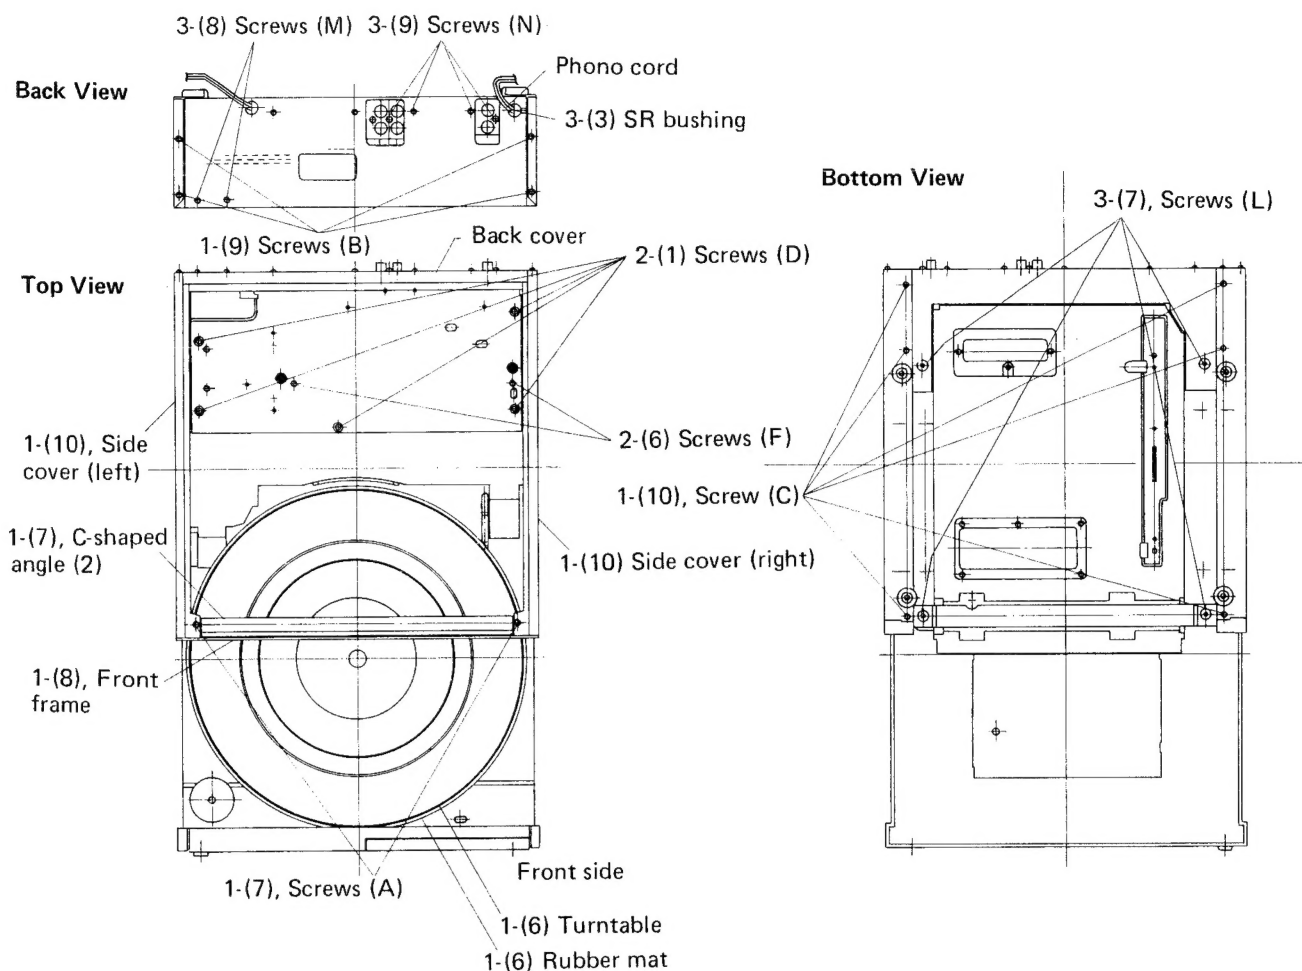
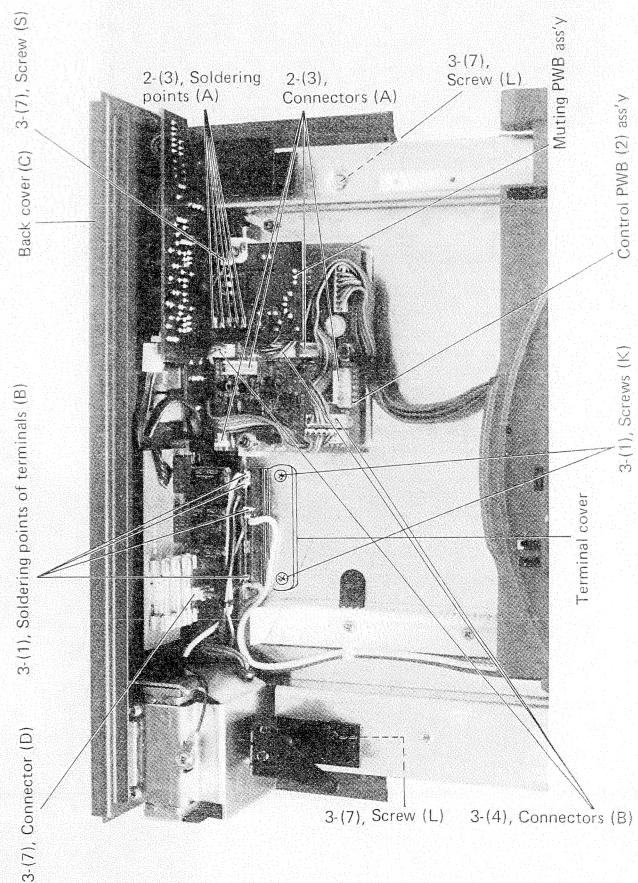

Fig. 1
Fig. 15
### 1). Disassembling Housings (See fig. 1)
- (1) Move tonearm base to the center of guide bar and then remove 5 pcs. of screws (D) from tonearm chassis. (See fig. 1, 2)
- 3. Remove 2 pcs. of screws (F) from bottom side of tonearm chassis. (See fig. 1, 2)
- (1) Unsolder 4 pcs. of terminals (B) and remove 2 pcs. of screws (K) from terminal cover. (See fig. 15)
- (2) Unsolder a grounding wire of back cover (C) from muting circuit ass'y. (See fig. 15)
- (3) Remove phono cord and SR bushing from back cover. (See fig. 1)
- (4) Disconnect connector (B) connected between back cover PWB and Control PWB (2). (See fig. 15)
- (5) Push down brush into cabinet.
- (6) Place turntable unit onto the table upside down.
- (7) Remove 2 pcs. of screws (L) from back cover so that the cover is disassembled. (See fig. 1, 15)
- 1. After disassembling back cover, remove 2 pcs. of screws (M) from back cover.
- 2. Disconnect connector (D) for secondary so that power transformer is dismantled. (For 4 voltage versions, unsolder change over switch before disconnect (D).)
**Note:** In case of replacement of power transformer only, take step (1) and (8) so that power transformer is dismantled directly.
- (9) Remove 4 pcs. of screws (N) from back cover so that power supply PWB (2) is dismantled. (See fig. 1, 9)